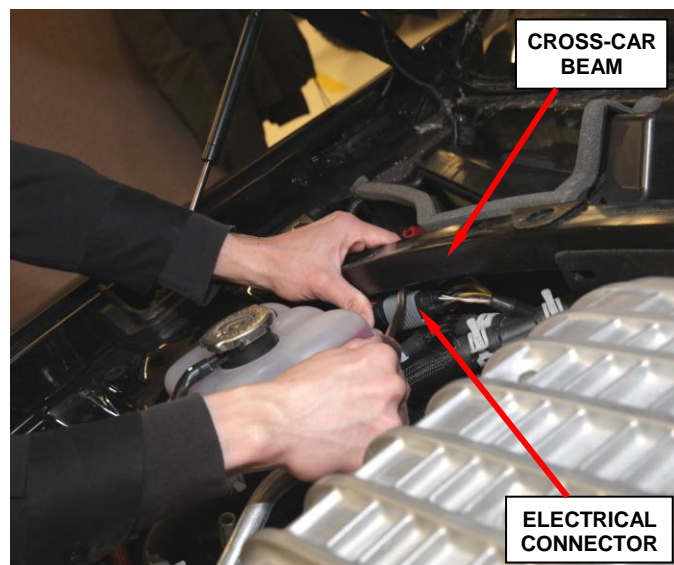

Figure 6 – Electrical Connector
d. Disconnect the electrical connect from the right side of the cross-car beam (Figure 6).